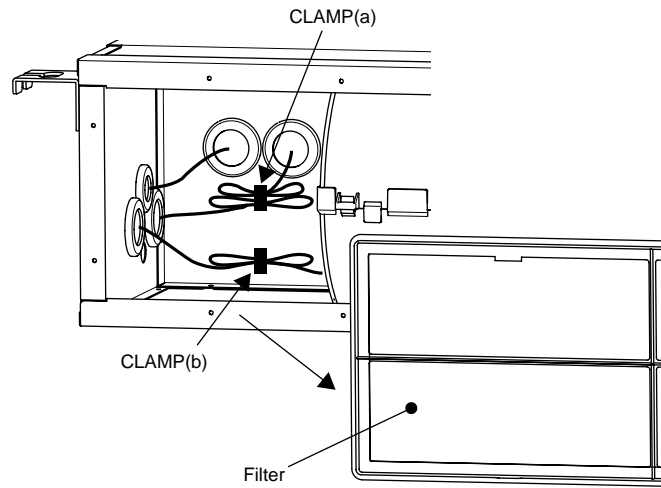

Fig. 4
(5) Remove the filter from the unit, and pull out the excess wire that is clamped down with CLAMP (a) to the outside of the unit. (Fig. 4)